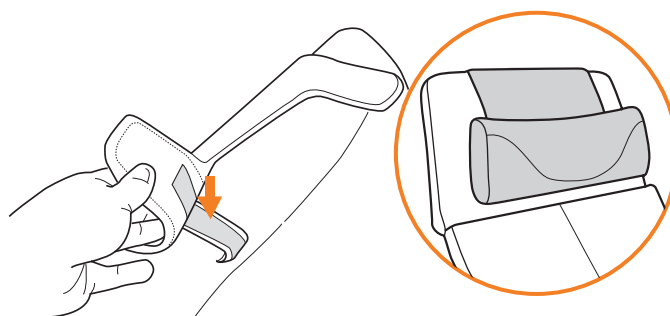

Fig.18
8. Attach the head pillow straps to the head pad straps using the hook-and-loop fasteners. Adjust the head pillow height for maximum comfort (Fig.18)